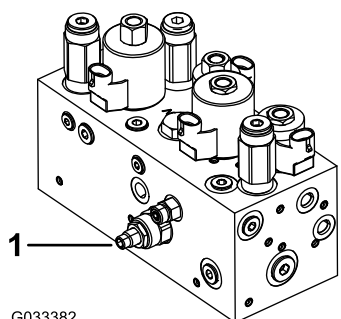

Figure 49
The cutting unit lift/drop circuit comes with a flow-control valve (Figure 49). This valve is preset at the factory at approximately 3 turns open, but you may need to adjust it to compensate for differences in hydraulic fluid temperatures, mowing speeds, etc.
1. Raise the seat and locate the flow-control valve for the center-pull frame (Figure 49), which is located on the side of the hydraulic manifold.